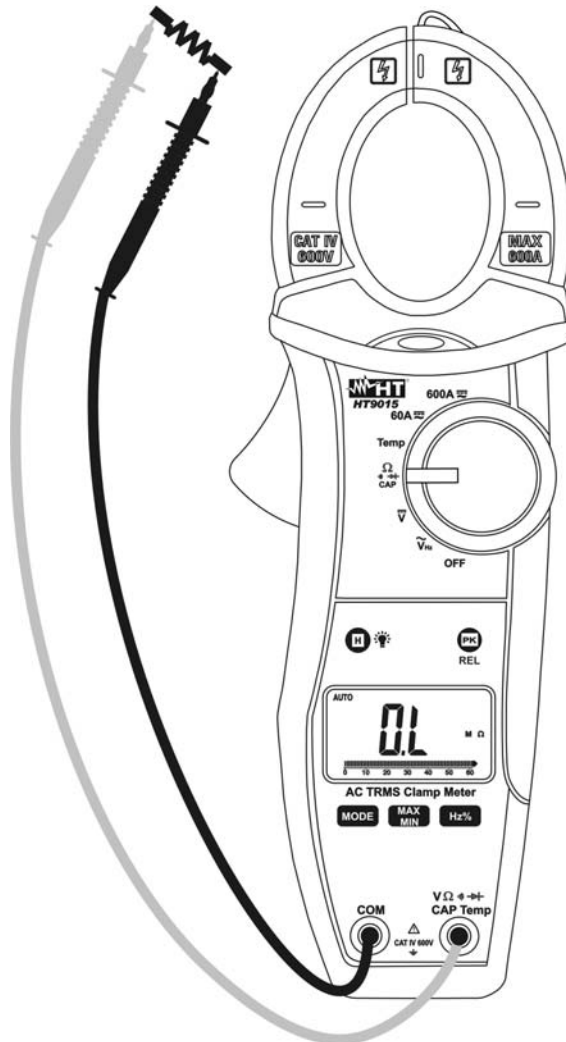

Fig. 5: Taking Resistance measurement
2. Insert the red test lead plug into  $V\Omega$   $\rightarrow$  **CAP** jack and the black test lead plug into **COM** jack (Fig. 5)